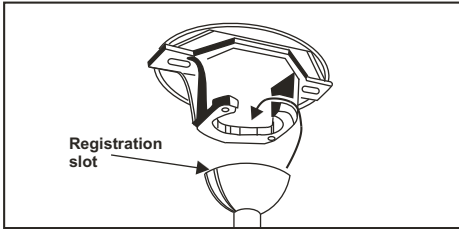

Figure 12
8. Now lift motor assembly into position and place hanger ball into hanger bracket. Rotate until the check groove drops into the registration slot and seats firmly. (Figure 12) Downrod should not rotate if this is done correctly.
2. Connect the neutral fan (white) wire to the white neutral household wire. (Figure 12)